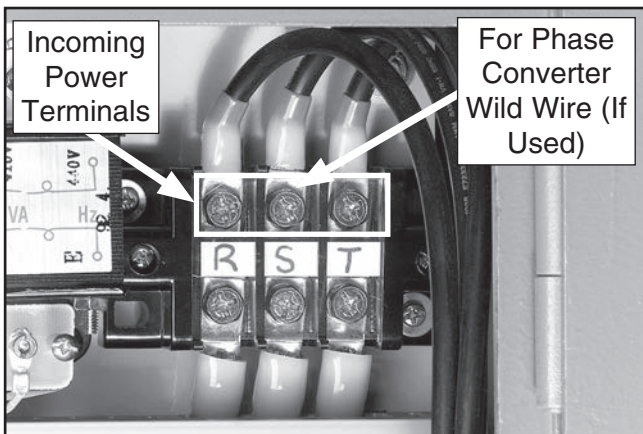

Figure 19. Terminal locations to connect incoming power wires.
4. Connect incoming power wires to top R, S, T terminals shown in **Figure 19**.